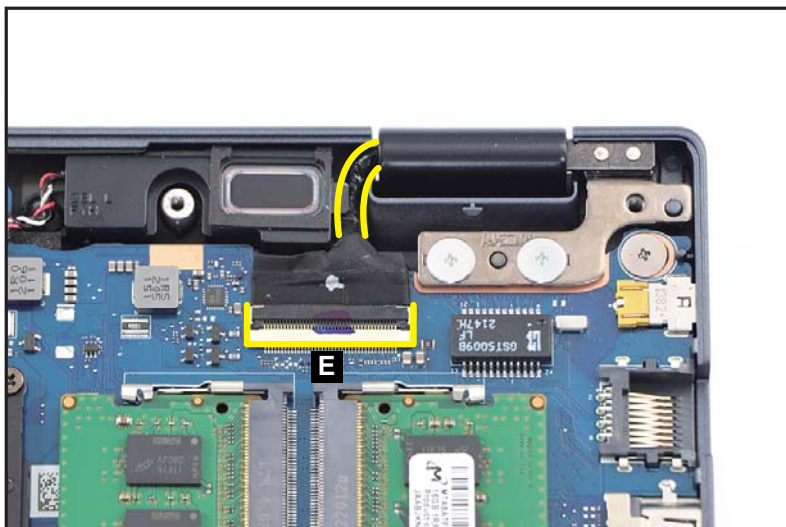

Figure 1-20. LCD Module Removal
4. Disconnect the eDP cable from the mainboard connector (E). Then unroute the cable from the cable guides as shown in Figure 1-20.